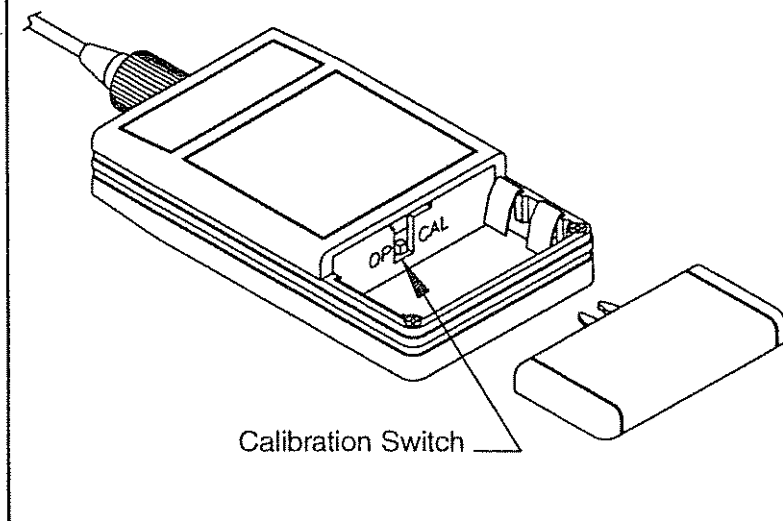

Fig 3.5 Location of the CAL/OP Switch of the TOP200 Power Meter. Switch is located behind tamper label.
- CAL/OP** This switch (see Figure 3.5), located inside the battery compartment, is used when recalibrating the meter. In normal use, this should always be set to the OP position. Consult Service Manual for detailed information about calibrating the TOP200.